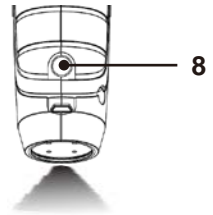

Fig. 11
To turn the flash light off, depress the on/off switch button(8) and release again (Fig.11).